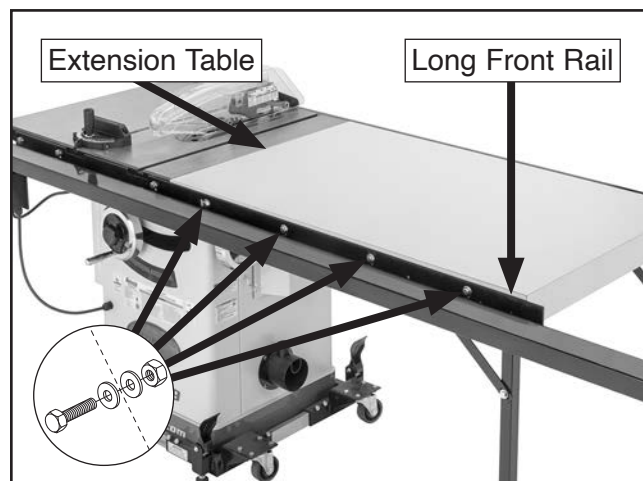

Figure 13. Extension table secured to long front rail.
19. Secure extension table to long front rail with (4) 3/8"-16 x 1 1/4" hex bolts, (8) 3/8" flat washers, and (4) 3/8"-16 hex nuts (see **Figure 13**). Hand-tighten fasteners for now.